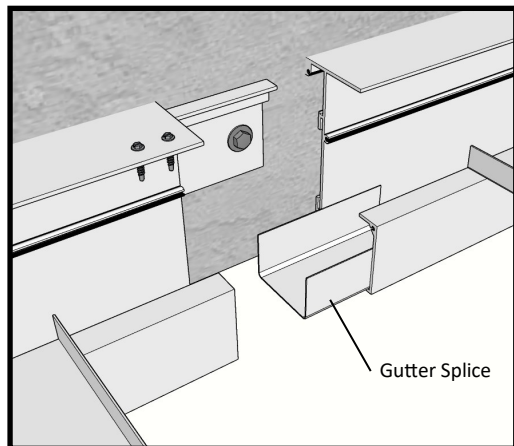
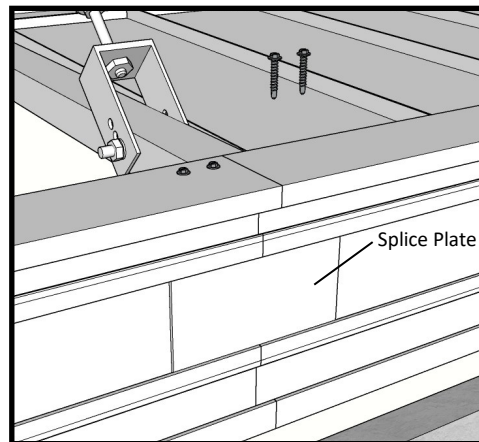

Fig 8
Fig 9
7. If multiple frames are used to complete one canopy run, raise the next canopy to the desired height to sit in lower brackets (#8), clamp frames together, bolt frames together, and attach canopy to brackets as mentioned above, set gutter splice bracket in a heavy bed of sealant, caulk & seal around gutter splice (see fig 8). Position Splice Plate across frame seam and secure with a couple dabs of caulk (see fig 9)